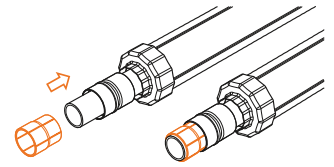

Fig. B10.2.4
5. Put the polymer sleeve with its thin end towards to outer steel sleeve and with its thick end towards to the end of pipe (Fig. B10.2.4).